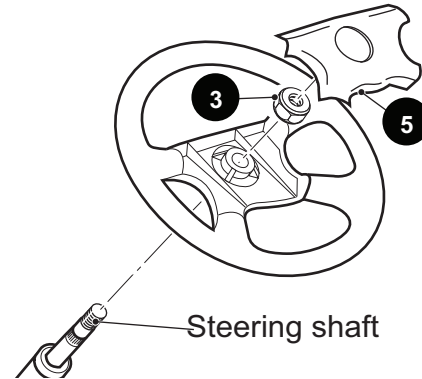

Figure 5 Steering Wheel Replacement
3. Loosen the steering wheel retaining nut (3) two to three turns. **DO NOT REMOVE NUT AT THIS TIME.**
4. Apply upward pressure to the steering wheel. Place a plastic faced hammer against the steering wheel nut and strike plastic faced hammer sharply with a ball peen hammer (Ref Fig. 5).